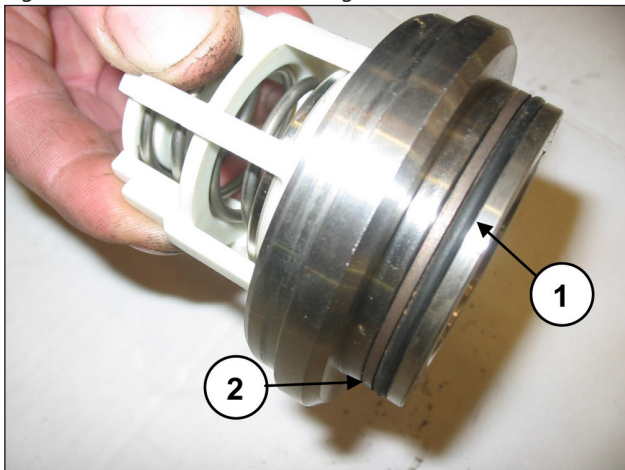

Fig. 96
Assemble the O-ring, exploded view pos. 5 (pos. ①, Fig. 96) and the anti-extrusion ring, exploded view pos. 15 (pos. ②, Fig. 96) on the outlet valve housing.